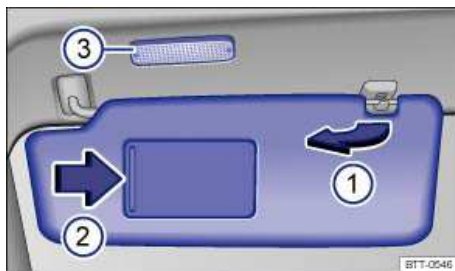

Fig. 76 In the headliner: Sun visor.
- Lift it out of the retaining clip ⇒ fig. 76 \(1\) and swivel it over toward the door.